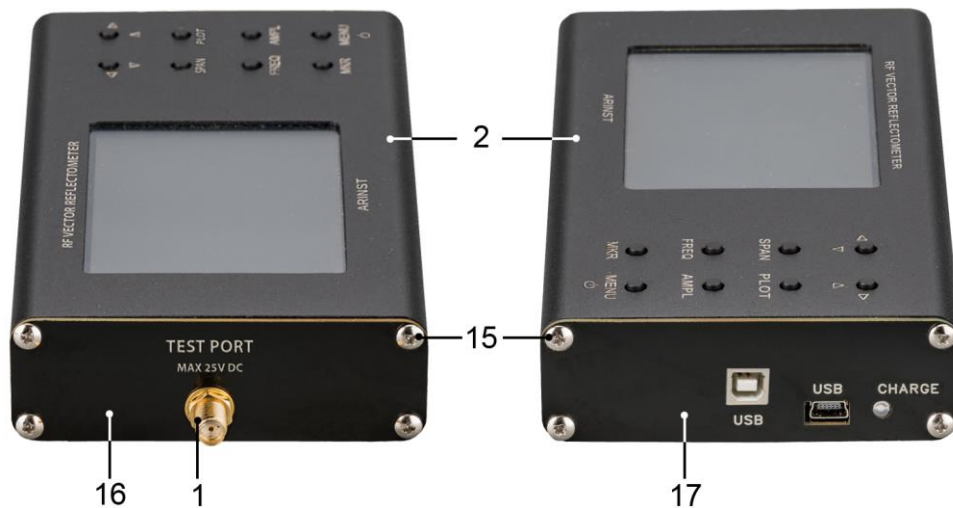

Figure 11.2 – Disassembly of the device case
11.3.4. Remove the 4 screws (15) of the front cover (16) of the device. Then unscrew the 2 upper screws (15) of the back cover (17) of the device. (Figure 11.2).